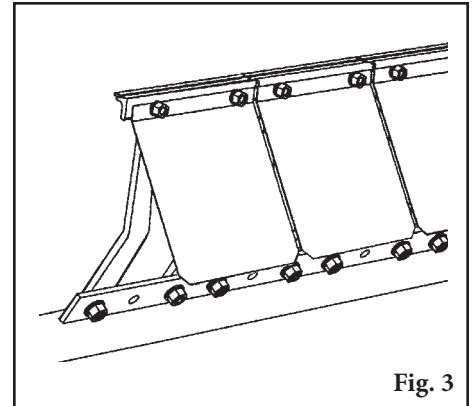

Fig. 3
3. **Install the new tips.** Locate each tip onto each suspension arm, then install the hardware to fasten the tip to the cushion (Fig. 3).